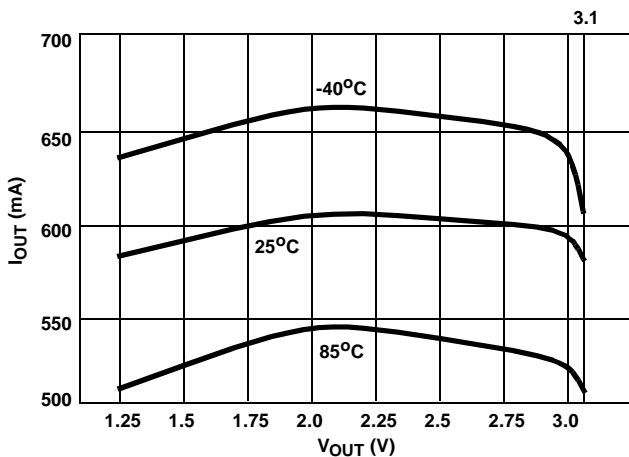

FIGURE 4. CURRENT REGULATION vs V_{OUT} (VIN = 3.3V)
The ISL6118 has integrated current sensing on the power MOSFETs that allows for rapid control of OC events. Once an OC condition is detected the ISL6118 goes into its current regulation (CR) control mode. The ISL6118 CR level is set to a nominal 0.6A and is regulated to within +/-25% over full temperature, bias voltage range and OC magnitude. The speed of this control is proportional to the level of OC. Thus a hard OC is more quickly controlled than a marginal condition. See Figures 4 through 7 for current regulation performance curves and waveforms.